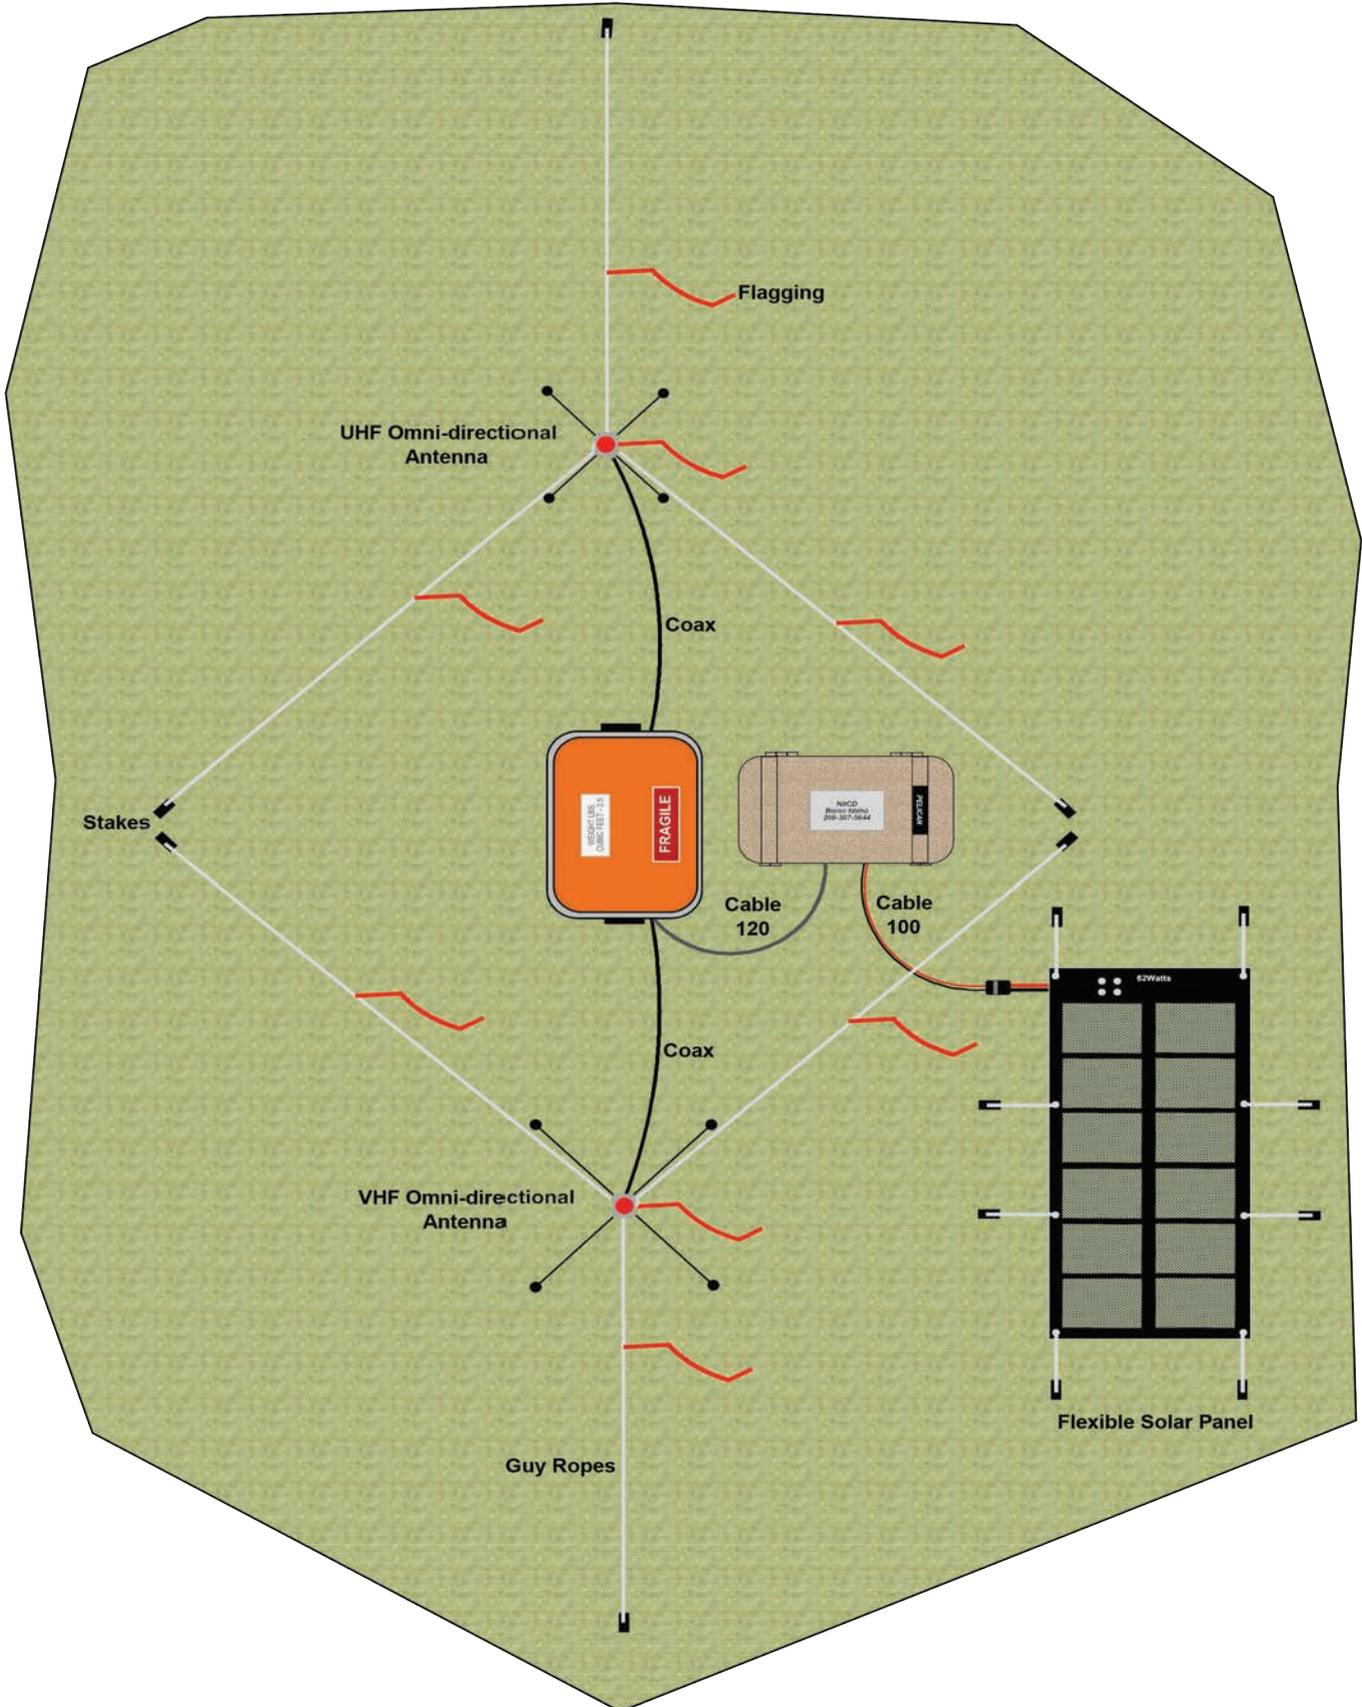

Figure 1: Solar Panel Installation (Overhead View)
4. Connect the components as shown on the cable block diagram. *(See Figure 1)*